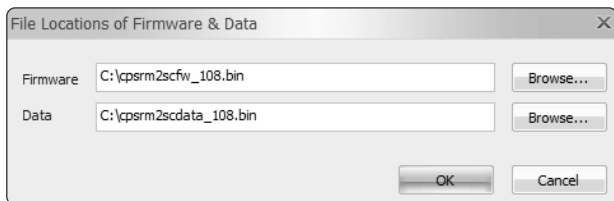

Figure 6. The File Locations of Firmware & Data window
6. Select the Firmware and Data files and click “OK”, as shown in Figure 6.